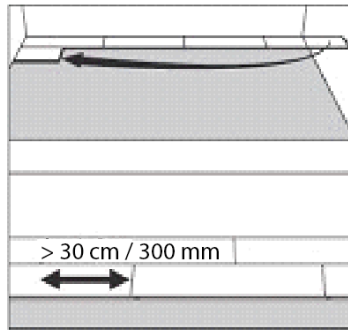

Figure 2
5. Cut the final board piece to length, never less than 300mm. (figure 2)
2. Position the long side of the first board in place overlapping the groove of the planks in the previous row by approximately 3mm. Then angle the end joint into the previous plank. Angle the plank up and gently push forward until the plank locks into the previous row. (figure 2) Slide the board to the left/right as necessary to align the edges of the end joint.
7. Whenever practical, use cut pieces from previous rows as the starter board to reduce waste. (figure 2)
8. Maintain 300mm spacing between end joints after the first four rows for best appearance. (figure 2)